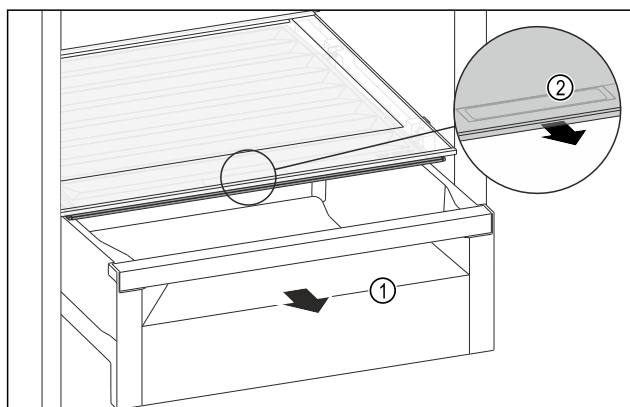

Fig. 101
- Pull out the drawer Fig. 101 (1).
- Grasp the recessed grip Fig. 101 (2) on the compartment lid and pull the compartment lid forwards at the same time.